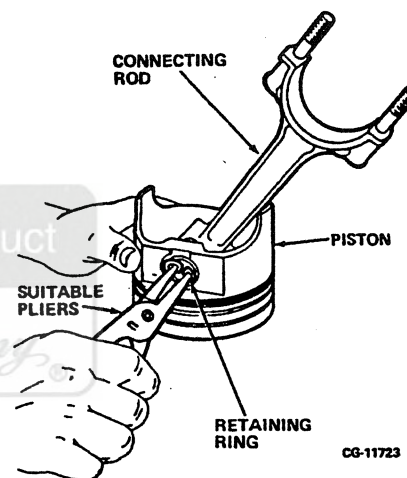

Figure 5.16. Removing Piston Pin Retainers
- a. Using a suitable pliers (Figure 5.16), remove the piston pin retaining rings from each end of the pin.